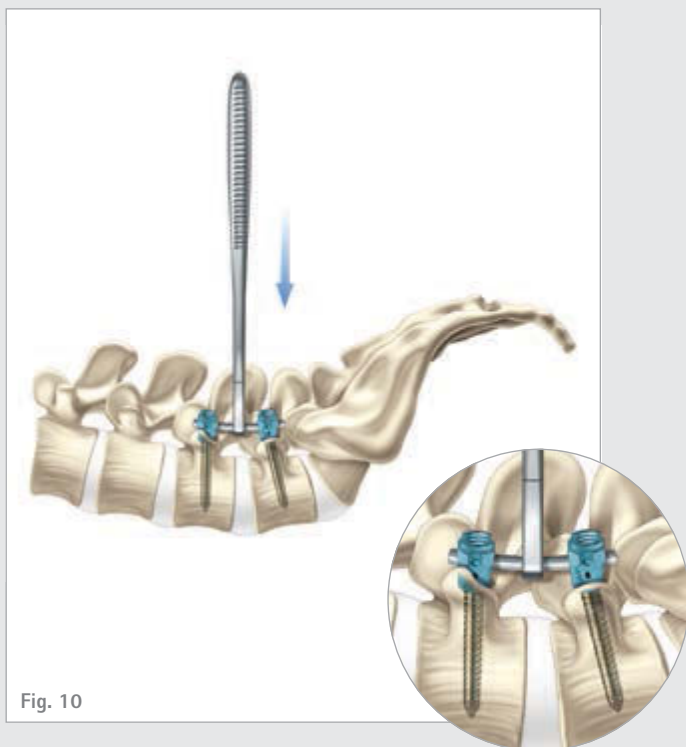

Fig. 10
- Use the Rod Holding Forceps (FW012R) to assist with rod placement or rod manipulation. (Fig. 10)